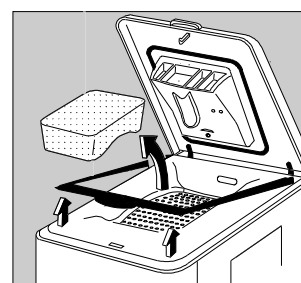

Fig. 2
- Open the lid of the appliance and remove the polystyrene and plastic wedges which block the drum. Close the lid (fig. 2).